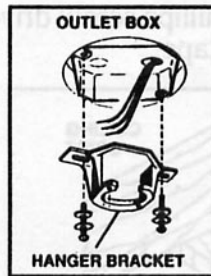

FIG. 5
Step 1. Secure the hanger bracket to the ceiling outlet box using screws provided with the outlet box and the lock washers and flat washers included with the fan. (Fig. 5).